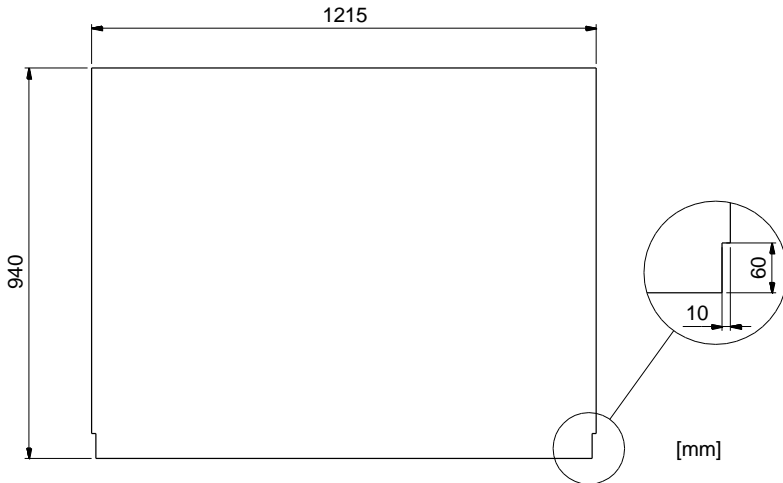
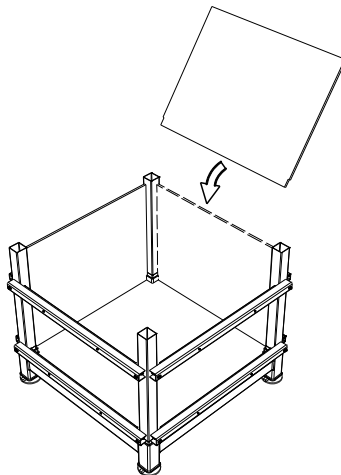

Figure 23. Dimension of the GRAVEL SIDE BOARD (Art.11539). Note that the board has got notches in both the bottom corners.
Figure 24. Placement of the side board units.
- 5.2 Use the GRAVEL SIDE BOARD or cut four pieces of 18 mm Formwork Plywood, complying to EN 636-3, to the format as shown in Figure 23. Place the boards one after another in the BASE, with the notches facing down, leaning against the FORMWORK SUPPORTS, see Figure 24 for illustration. The boards shall be placed onto the BOTTOM FRAME and not onto the BOTTOM BOARD. Fix the boards to the FORMWORK SUPPORTS with wooden screws.